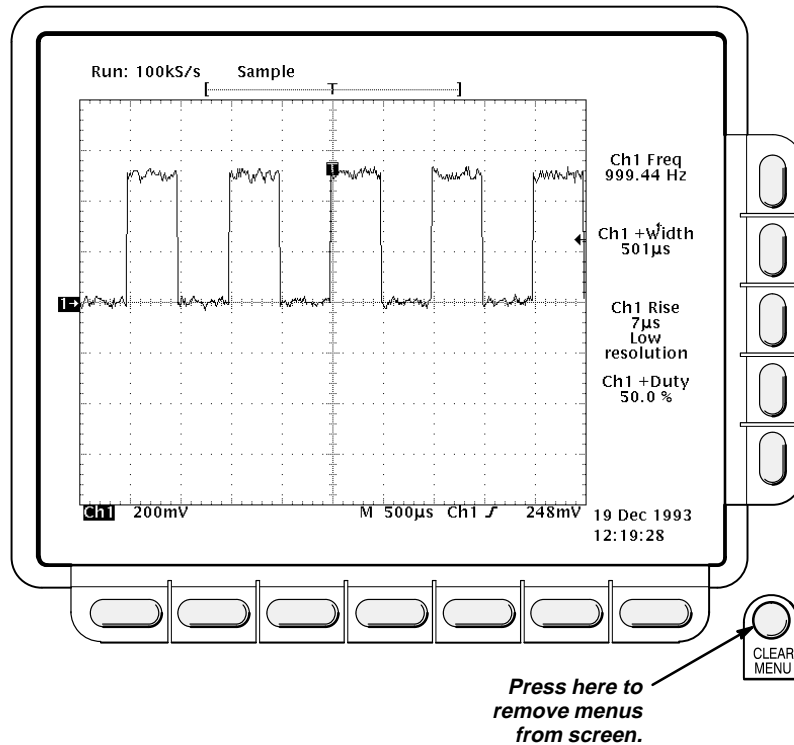

Figure 1-17: Four Simultaneous Measurement Readouts
8. To move the measurement readouts outside the graticule area, press **CLEAR MENU** (see Figure 1-17).